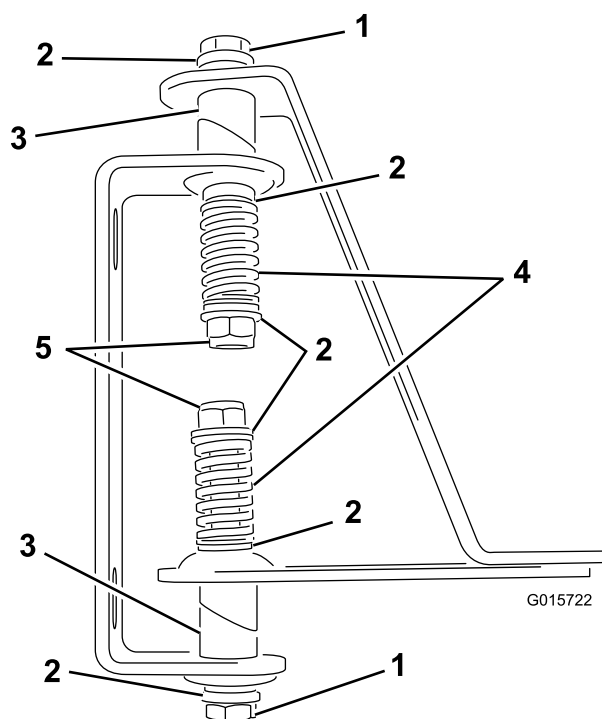

Figure 3
4. Insert the bolts through the hinged welded tube openings, hinges, and straps (Figure 3).
6. Install a spring on the end of each bolt (Figure 3).